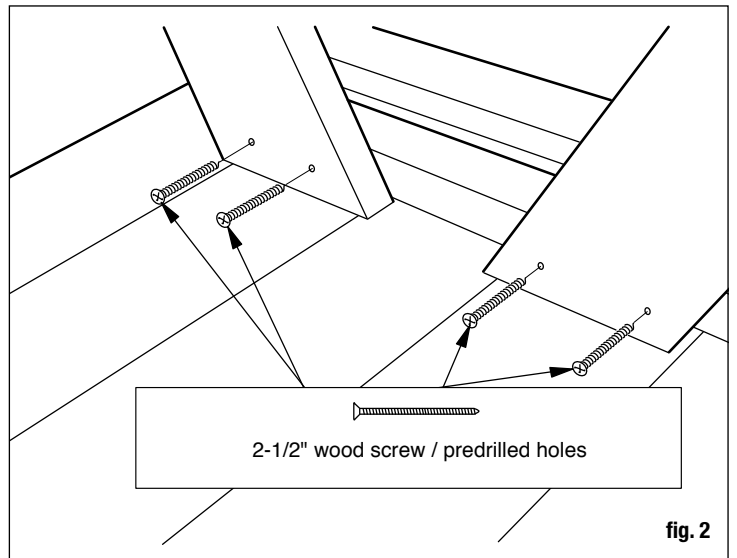

fig. 2
Attach using four (4) - 2-1/2" wood screws through the predrilled holes (fig. 2). Repeat step to attach other leg frame assembly. Once the leg assemblies are attached, tighten 3-1/2" carriage bolts using a wrench.